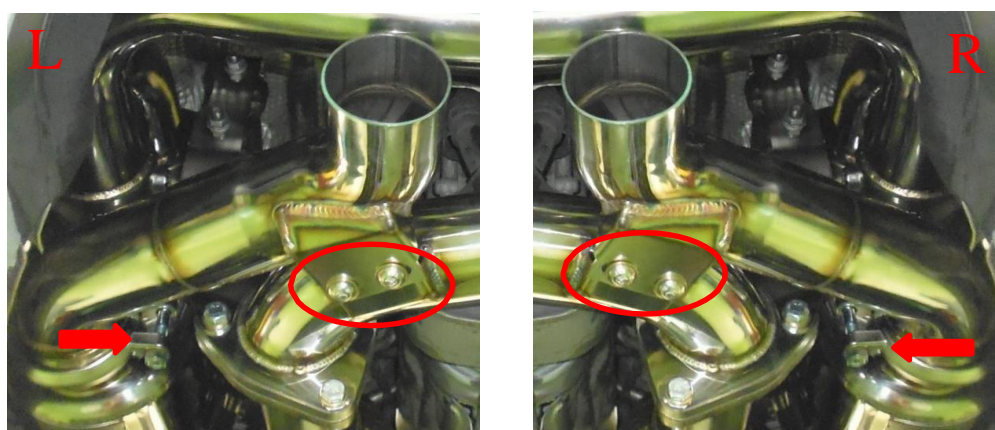

Fig 2-6
8. Install the tips and fix it with 6mm hexagon wrench. (Fig2-6)
9. Use a 13mm hex wrench to lock the clamps.(Fig2-6)
※ The tips fixing piece needs to be located at the red circle in figure 2-6, and the left and right are not shared ※